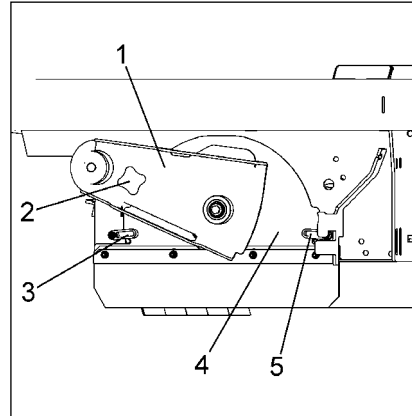

Fig.15
- Loosen star-shaped knob (Fig. 15/2) and remove
- Remove cylinder broom seating (Fig. 15/1)
- Turn handle (Fig. 15/3 +5) upwards and unlock
- Remove plate with sealing strip (Fig. 15/4)